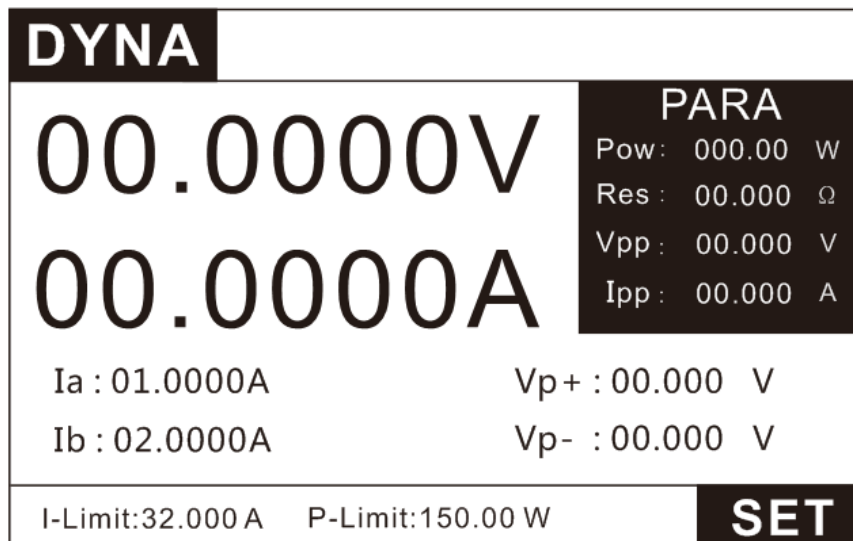
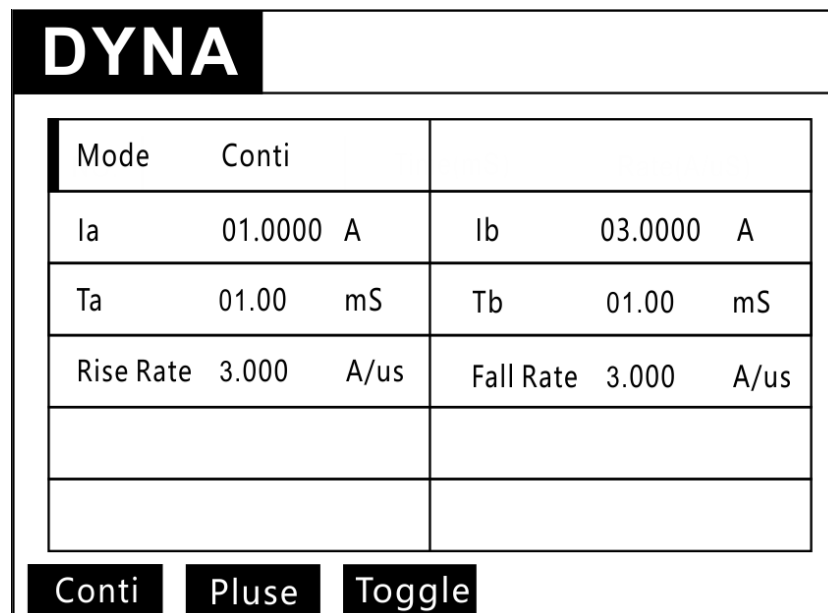

Figure 3.16 DYNA testing page
Figure 3.17 DYNA Setting Page
1. Press the key **MODE** to enter the mode selection page, press the up and down keys to select DYNA, and press the key **ENTER** to enter the DYNA test interface, as shown in Figure 3.16.
2. In Figure 3.16, press the key **SET** to enter the setting interface, as shown in Figure 3.17.
3. As shown in Figure 3.17, set the test mode to continuous test, high current $I_b=3A$, high time $T_b=1mS$, low current $I_a=1A$, low time $T_a=1mS$, rise/fall rate= $3A/uS$.